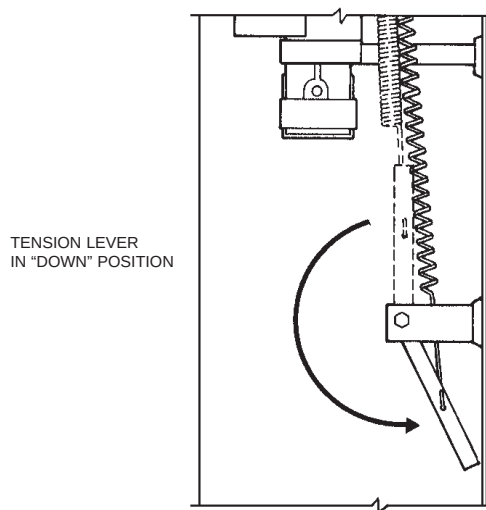

FIGURE 8-7
21. Lower tension lever to "DOWN" position. See Figure 8-7.